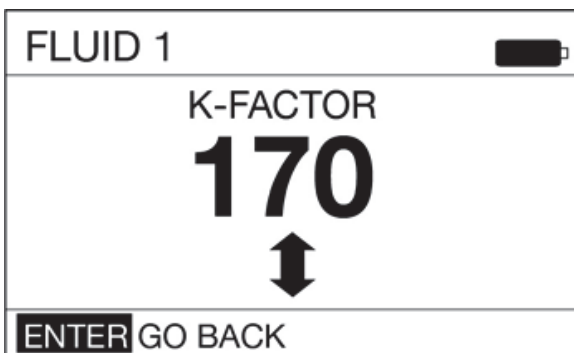

FIG. 65
- After adjustments to the k-factor are complete, ENTER should be highlighted in the lower left corner of the display as shown in FIG. 65. Press the center ENTER button on the keypad to select ENTER and save the new calibration factor.